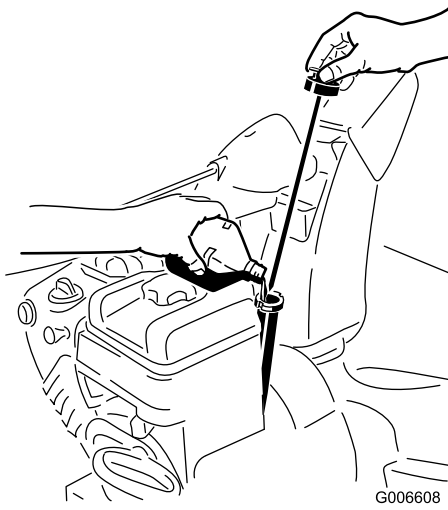

Figure 32
2. Remove the dipstick and check the oil level (Figure 32). If the oil level is below the Add mark on the dipstick, add oil. Refer to Filling the Engine with Oil.